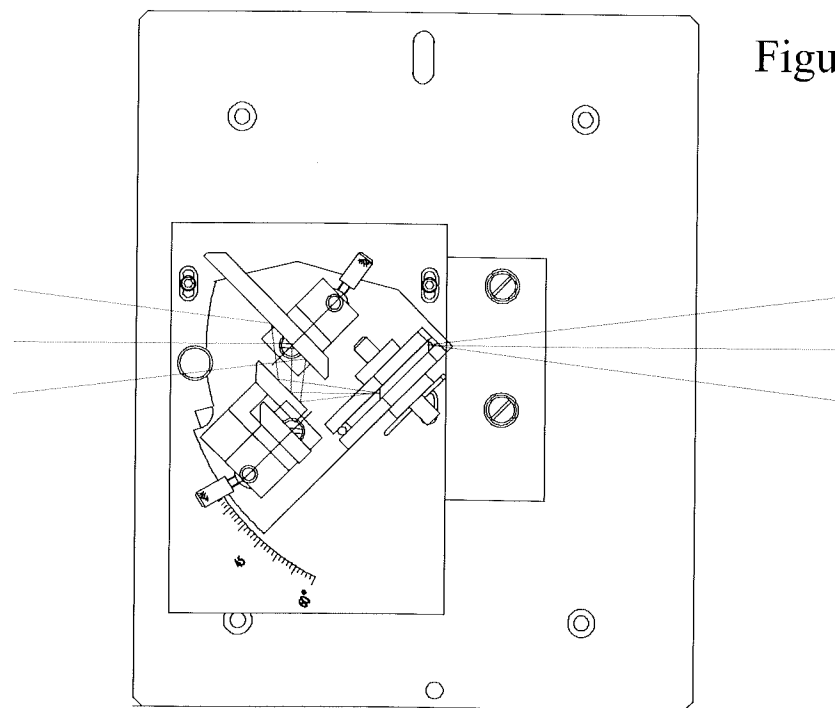

Figure 1
The accessory is shown in figure 1 below. Two diagrams are shown, one for the accessory with a 50mm crystal and one with a 25mm crystal.
3. Refer to Figure 1. Remove the crystal holder. Loosen and anvil clamp screw and place the crystal in the holder. Ensure that the crystal is located so that the end of the crystal is positioned over the hole in the base of the crystal holder. Carefully tighten the crystal clamp screw to secure the crystal. Do not over tighten this screw as the crystal may be deformed or broken if too much pressure is applied.